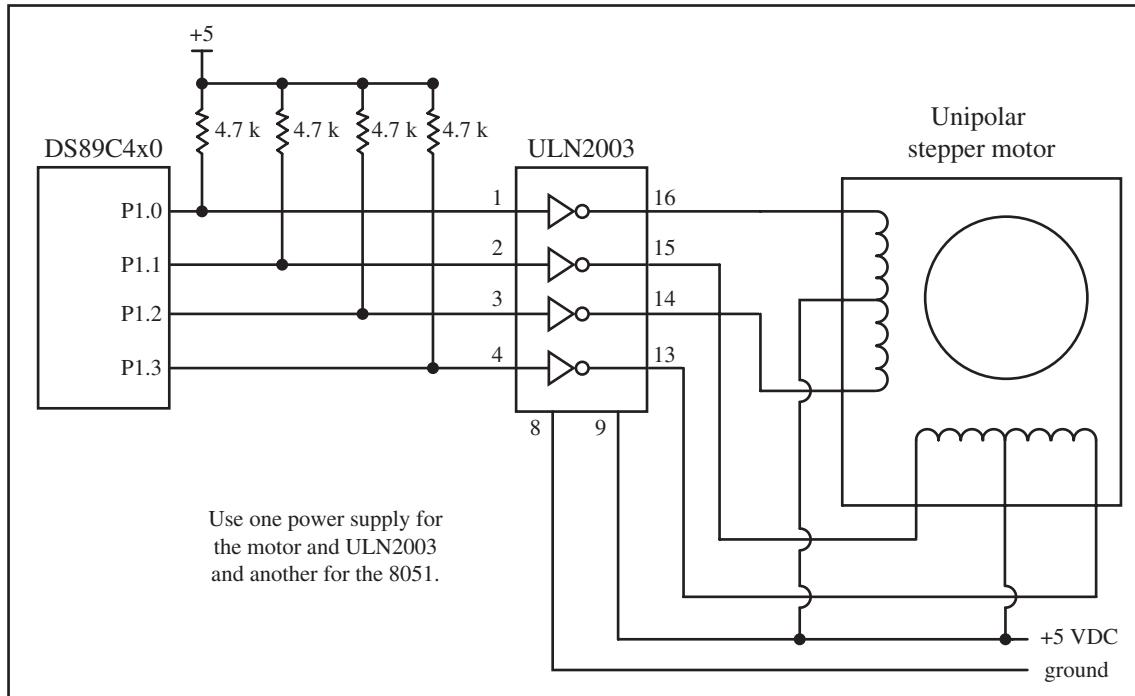

Figure 9. 8051 Connection to Stepper Motor
Describe the 8051 connection to the stepper motor of Figure 9 and code a program to rotate it continuously.
3. The four leads of the stator winding are controlled by four bits of the 8051 port (P1.0–P1.3). However, since the 8051 lacks sufficient current to drive the stepper motor windings, we must use a driver such as the ULN2003 to energize the stator. Instead of the ULN2003, we could have used transistors as drivers, as shown in Figure 9. However, notice that if transistors are used as drivers, we must also use diodes to take care of inductive current generated when the coil is turned off. One reason that using the ULN2003 is preferable to the use of transistors as drivers is that the ULN2003 has an internal diode to take care of back EMF.